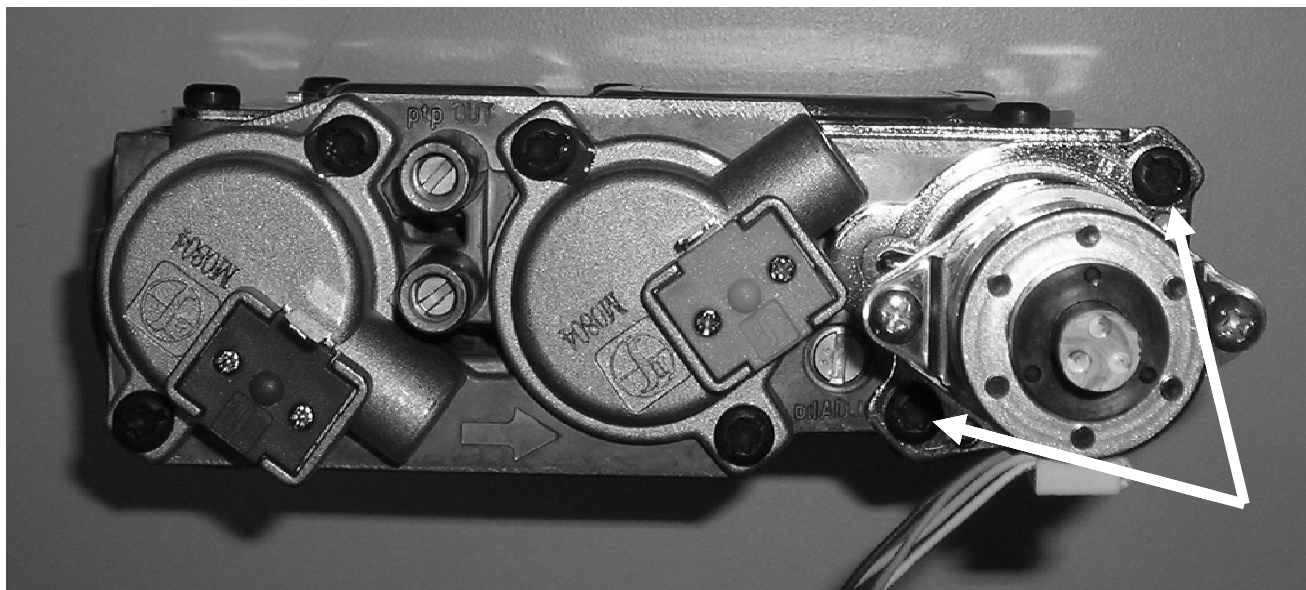

Figure 4
12. Locate and remove the two torx head screws that mount the motorized regulator to the valve. See *Figure 4*.